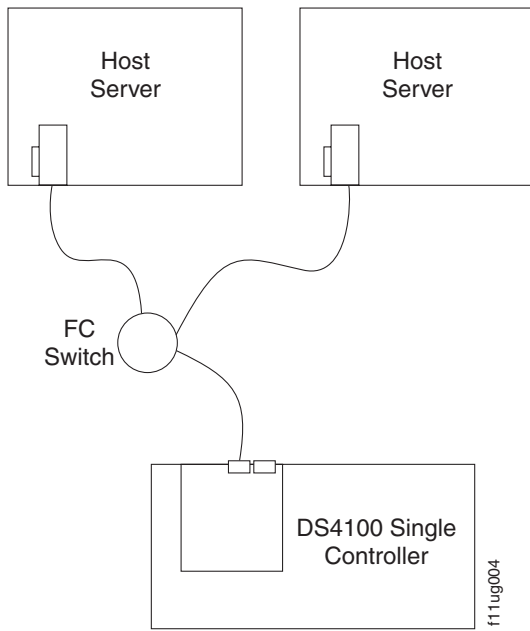

Figure 31. Example of a dual-server, single-SAN fabric configuration with one adapter on each server (single-controller storage subsystem)
- Dual-server, single-SAN fabric configuration with one adapter on each server, as shown in Figure 31 on page 44